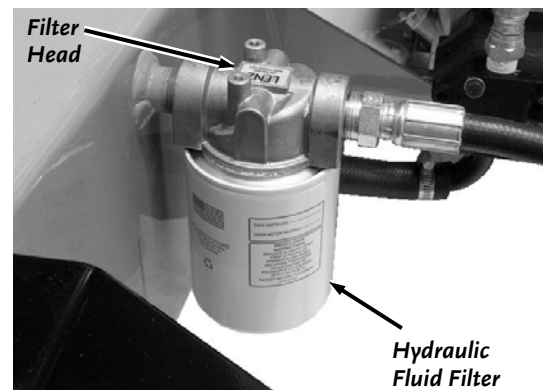

Figure 54
- Remove the existing hydraulic fluid filter and properly dispose of it (**Figure 54**).